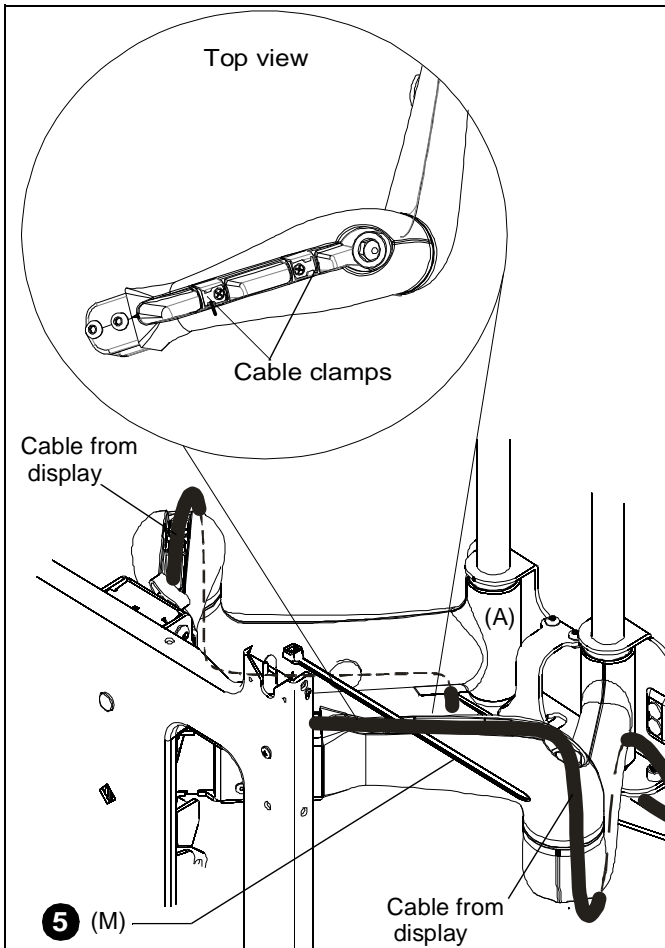

Figure 6
2. If necessary, use cable tie mounts (G) and cable ties (M) to secure cables within PAC501.
3. Thread cable ties (M) under cable clamps in mount arms. (See Figure 6)
4. Route power/audio/video cables through the cable channel in top arm (See Figure 6), allowing sufficient slack in cables for left/right movement of display and swing arm and also swing arm extension and retraction.
5. Secure cables to top arm using two cable ties (M).